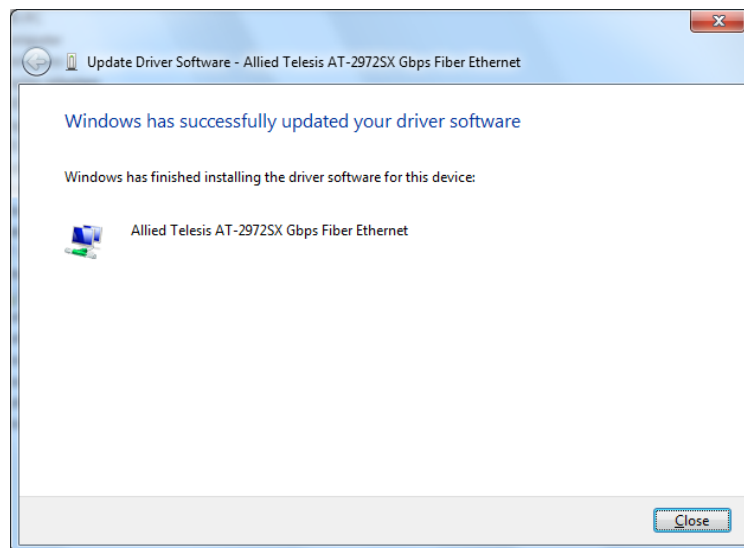

Figure 21. Update Driver Software - Confirmation Window
7. Click **Next**. A confirmation message is displayed. See Figure 21.